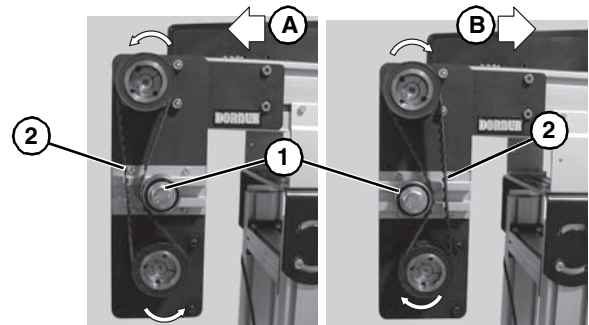

Figure 9
8. Depending on conveyor belt travel (direction A or B), locate timing belt tensioner (Figure 9, item 1) as shown. Tension timing belt to obtain 1/8" (3 mm) deflection for 6 lb (3 Kg) of force at timing belt mid-point (Figure 9, item 2). Tighten tensioner screw to 110 in-lb (12 Nm).
3. Depending on conveyor belt travel (direction A or B), locate timing belt tensioner (**Figure 9, item 1**) as shown. Tension timing belt to obtain 1/8" (3 mm) deflection for 6 lb (3 Kg) of force at timing belt midpoint (**Figure 9, item 2**). Tighten tensioner screw to 110 in-lb (12 Nm).
5. Depending on conveyor belt travel (direction A or B), locate timing belt tensioner (**Figure 9, item 1**) as shown. Tension timing belt to obtain 1/8" (3 mm) deflection for 6 lb (3 Kg) of force at timing belt midpoint (**Figure 9, item 2**). Tighten tensioner screw to 110 in-lb (12 Nm).